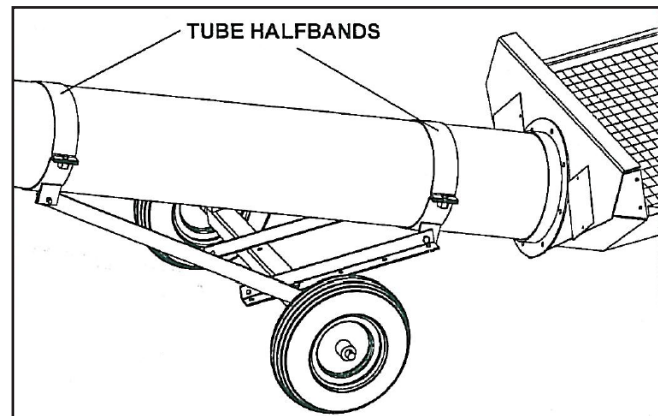

Figure 2
6. Now place the hopper tube in the halfband brackets and secure with two halfbands and four 7/16" x 1-1/4" bolts, washers, and locknuts (see Figure 2).